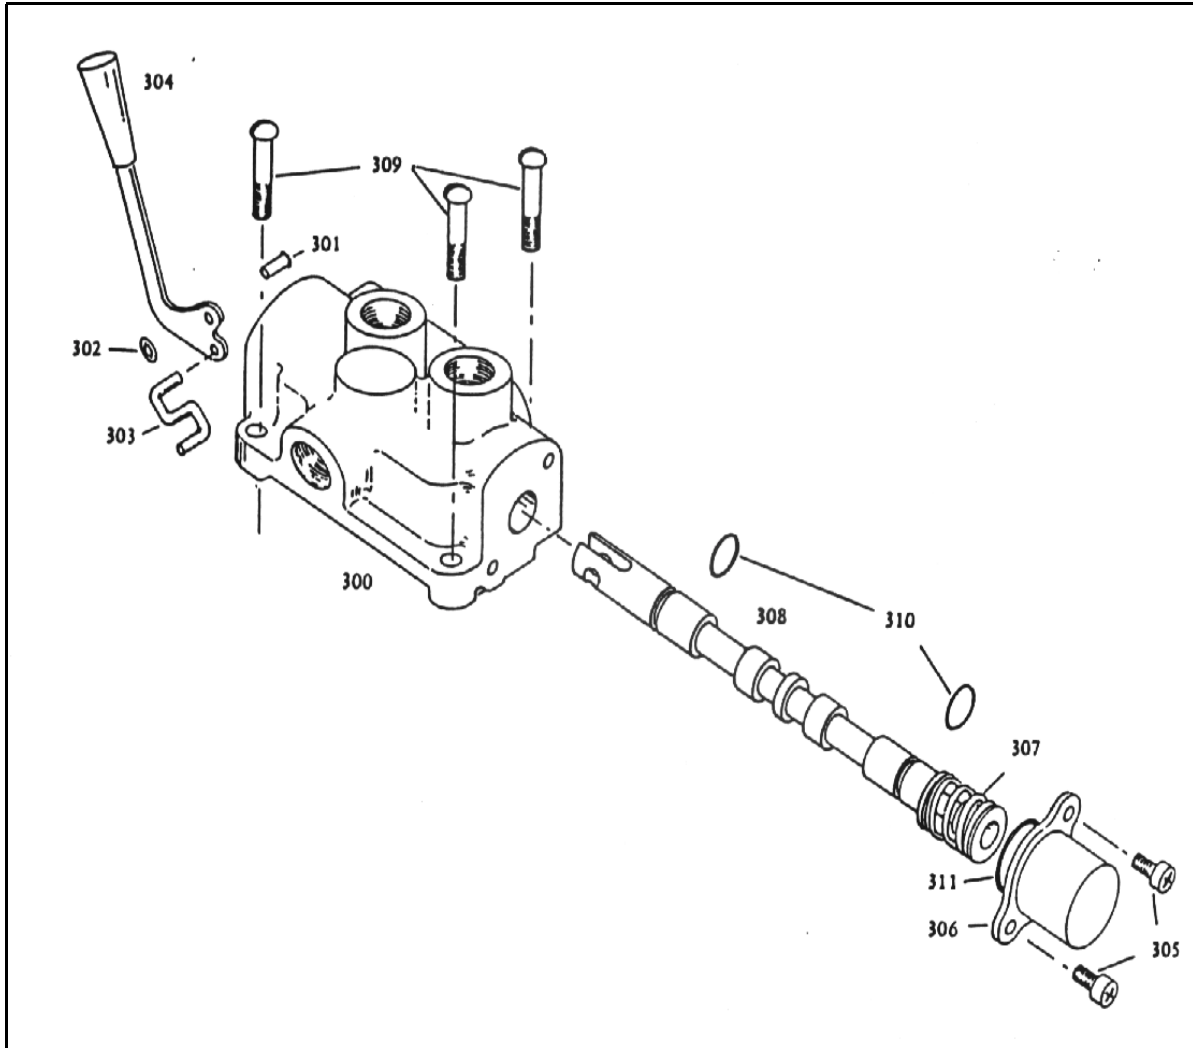

Figure V-5. Hydraulic Control Valve, Exploded View.
V-7.5 Hydraulic Control Valve. For removal/installation refer to Figure V-5.
V-7.6 Valve Seals Replacement. (See Figure V-5.)
- e. Figure V-5, Hydraulic Control Valve Exploded View.